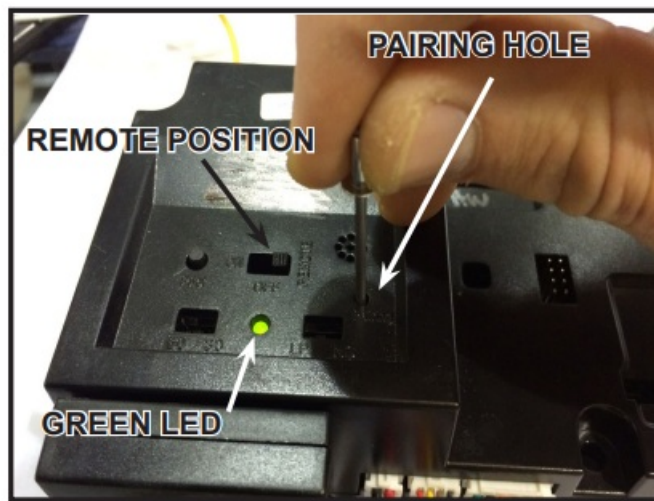
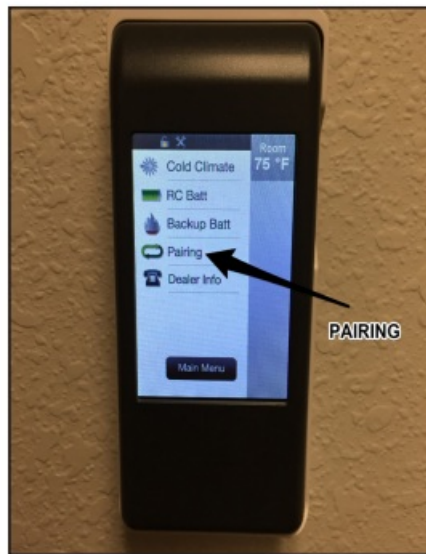

Figure 9 Pairing IFT-ECM
Figure 10 IFT-RC400 Wall Mount / Pairing Screen
3. Place BRAND/ the IFT-RC400 inside the wall mount. See Figure 9.
2. Locate the pairing hole on the IFT-ECM. See Figure 9. Using a paper clip or similar item, press and release the pairing button. The IFT-ECM will “beep” once and the green LED will blink for 14 seconds. During the 14 seconds, it is normal for accessories such as lights or fan to energize momentarily. While the green LED on the IFT-ECM is blinking, tap anywhere on the gray indicator bar located at the top of the IFT-RC400 screen. Tap on the pairing function as shown in Figure 10. If the IFT-RC400 has been paired successfully to the IFT-ECM, a double audible “beep” will be heard from the IFT-ECM..
3. Locate the pairing hole on the IFT-ECM. See Figure 9. Using a paper clip or similar item, press and release the pairing button. The IFT-ECM will “beep” once and the green LED blink for 14 seconds. During the 14 seconds, it is normal for accessories such as lights or fan to energize momentarily.
4. Touch the screen of the remote. As soon as the main screen appears, tap on the gray indicator bar on the top edge of the screen display. Next, immediately tap the pairing icon as shown in Figure 10. Successful pairing will be indicated by a double beep from the IFT-ECM.
6. As soon as the main screen appears, tap on the gray indicator bar on the top edge of the screen display. Next, immediately tap the pairing icon as shown in Figure 10. Successful pairing will be indicated by a double beep from the IFT-ECM.